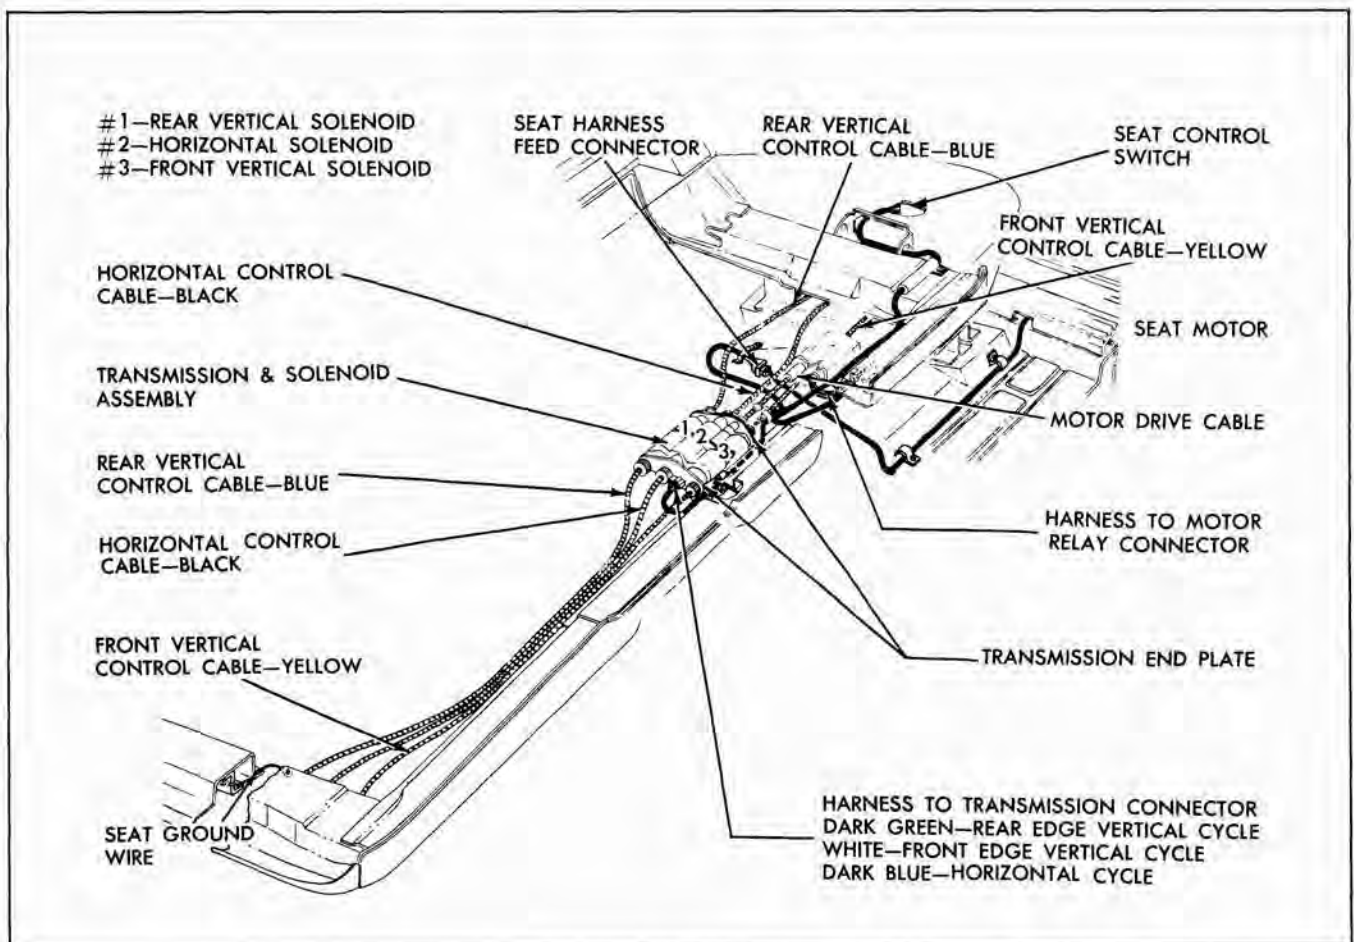

Fig. 9-11 Six-Way Seat Installation
The seat adjusters are actuated by a 12 volt motor installed at the left side of the seat assembly (Fig. 9-11). The motor is energized by a three (3) button-type control switch located in the left seat side panel.